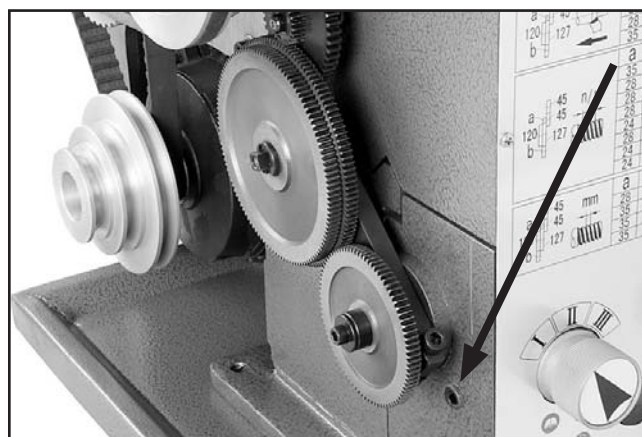

Figure 68. Feed rate gearbox oil reservoir drain plug.
4. Hold the drain pan under the reservoir drain plug, then remove the drain plug shown in **Figure 68**, and allow the oil to completely drain into the pan.